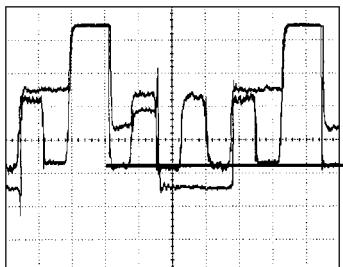

Fig. 2-2
5. Press the VOL. UP/DOWN button on the remote control until the waveform becomes as shown in **Fig. 2-2**.